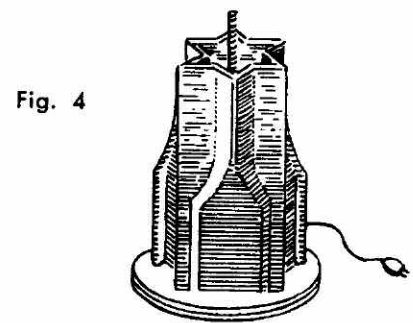

Fig. 4
3. After placing the 31st layer, continue building straight up for 63 layers. (Fig. 4).